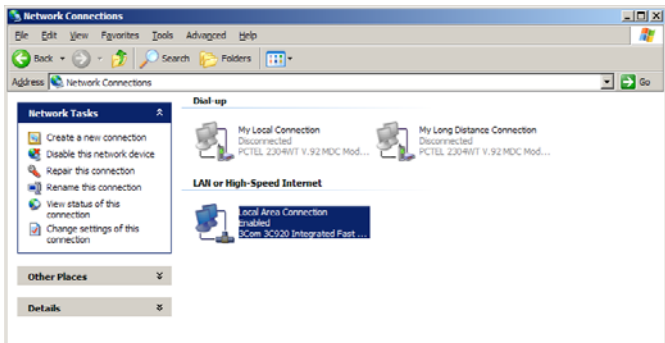

Figure 6-3 LAN or High-speed Internet Connection
3. Highlight the “LAN or High-speed Internet Connection” icon. Select the “Change settings of this connection” option, or right-click and select “Properties.” Refer to Figure 6-3.